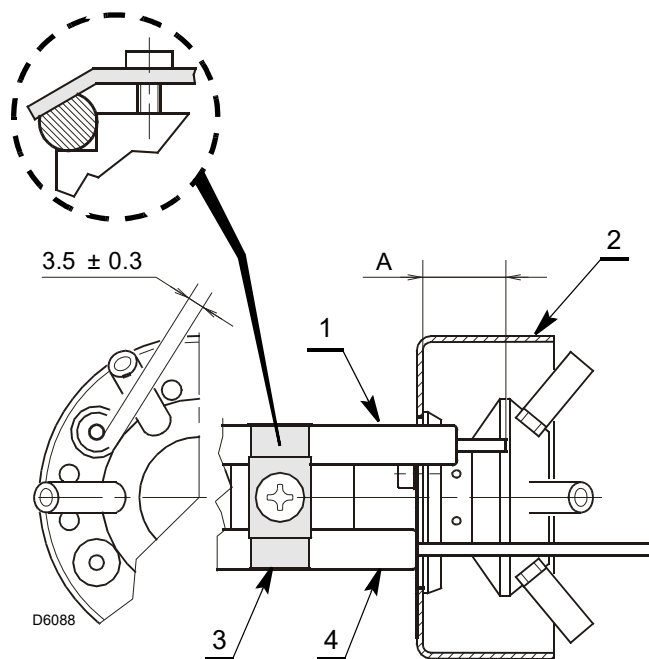

Fig. 14
- Make sure that the plate 3)(Fig. 14) is always inserted in the flattening of the electrode 1).